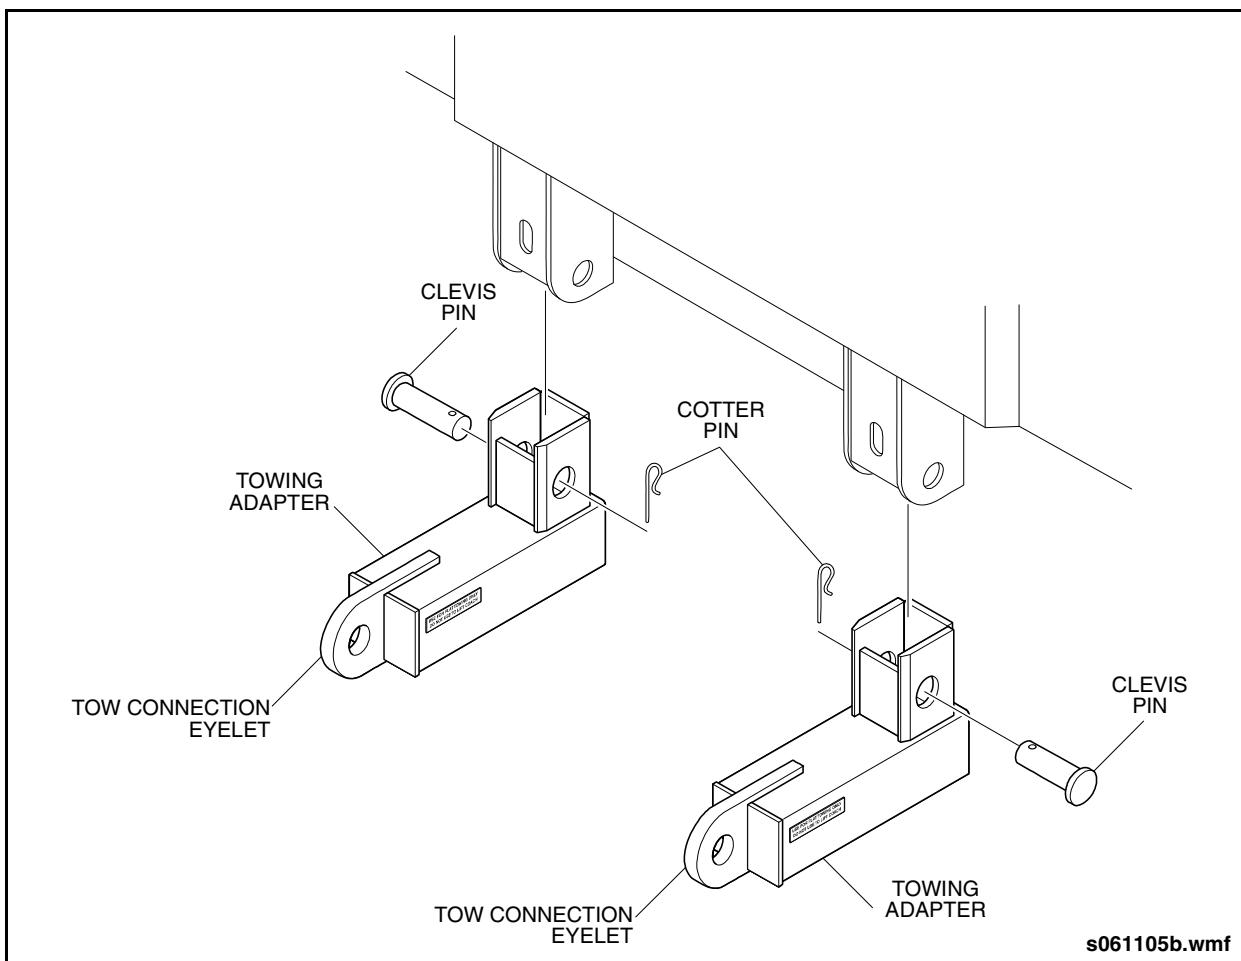

Fig. GI-22: Towing Adapter
1. Install each tow adapter into a receiver and locate with a clevis pin. See "Fig. GI-22: Towing Adapter" on page 47.